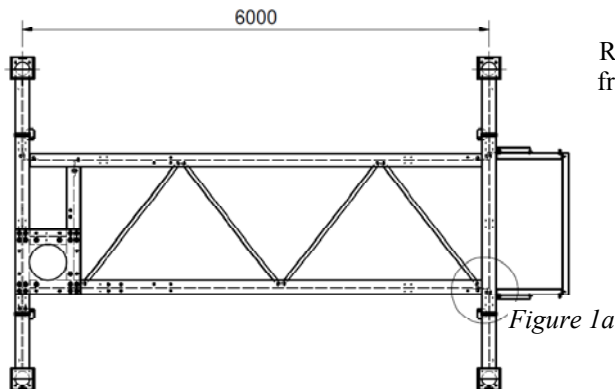

Figure 1: Existing frame as assembled
- Remove the fixings from the angle cleats (RDS39) connecting the boot beam to the main grillage beams, as shown in figure 1. Be sure to only remove the fixings shown.